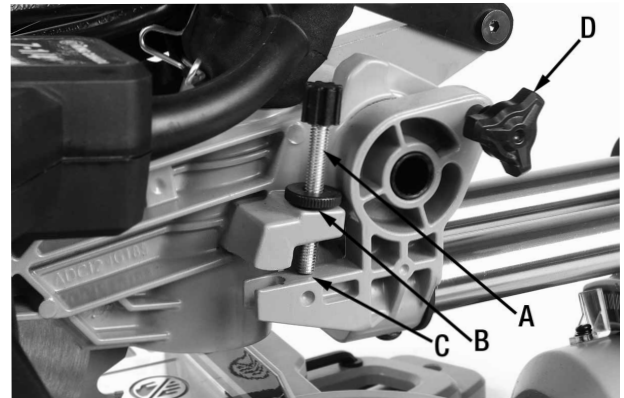

FIGURE 16
The depth of cut stop is a feature which can be used for cutting grooves in a workpiece. In its highest position, the depth adjustment knob (A) Fig.16 allows the saw blade to cut right through a workpiece, as it clears the stop (C). When the saw arm is lifted, and the lock nut (B) is loosened, the depth adjustment knob can be lowered so that the depth adjustment knob contacts the stop (C) as the saw arm is lowered. This restricts the cut to a "adjusted depth" in the workpiece. The depth of cut can be adjusted with the adjustment knob and locked in position with the lock nut (B). A groove should be cut as a slide cut.
1. Loosen the lock nut (B) Fig.16, rotate the depth adjustment knob (A) to the desired cutting depth, and retighten the lock nut.
1. Pull the saw head release knob (D) Fig.16 and lift the saw head to its full height.